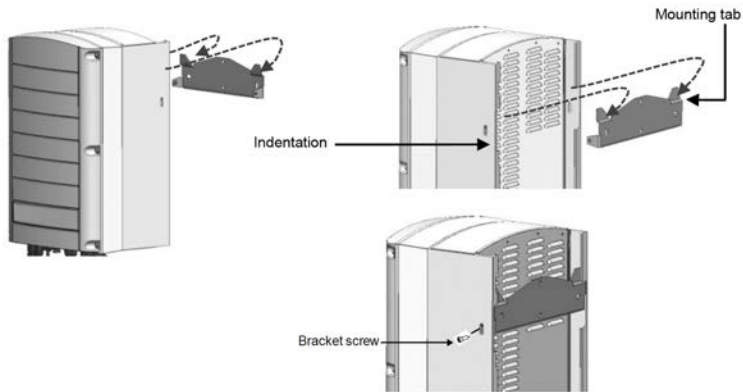

Figure 9: Hanging the inverter on the bracket
- Ensure that the flat edge of the bracket is at the bottom, as in *Figure 9*.
5. Hang the inverter on the bracket (see *Figure 9*): Lift the inverter from the sides, or hold it at the top and bottom of the inverter to lift the unit into place. Do not lift holding the Connection Unit/DC Safety Unit as it may be damaged.
8. Insert the two supplied screws through the outer heat sink fin on both sides of the inverter and into the bracket (see *Figure 9*). Tighten the screws with a torque of 4.0 N*m / 2.9 lb.*ft.